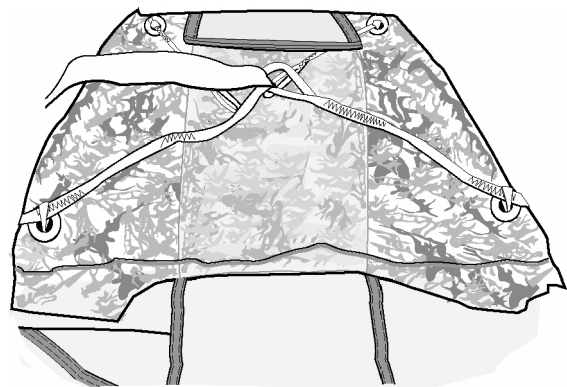

Figure 12. Routing of Drogue Bridle
(1) Pass the drogue riser's large loop through the four sealed canopy bridle cord loops starting with the top right and continuing clockwise.
(2) Pass the packed drogue through the drogue riser's large loop.
(3) Pull the drogue riser snug into a Lark's head knot.
(4) Route drogue riser toward lower right side of sealed module (Figure 12).